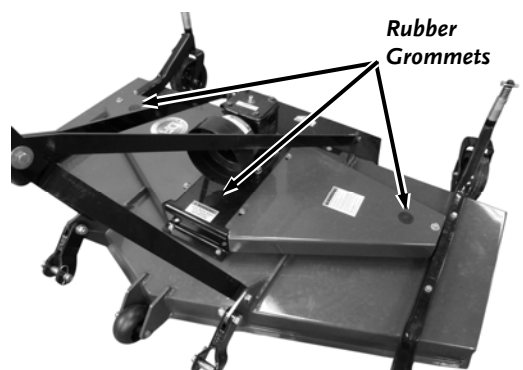

Figure 20
1. Remove the three Rubber Grommets from the Belt Covers and Gearbox Seat (**Figure 20**).